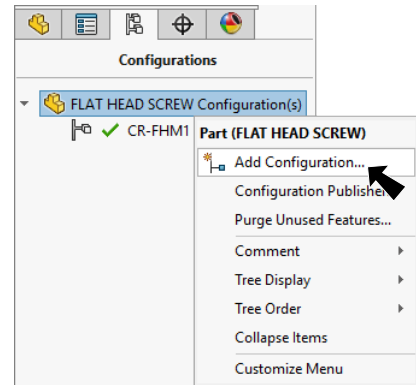

Fig. 8
Step 1. Right click **FLAT HEAD SCREW** part name and click **Add Configuration** from menu, **Fig. 8**.